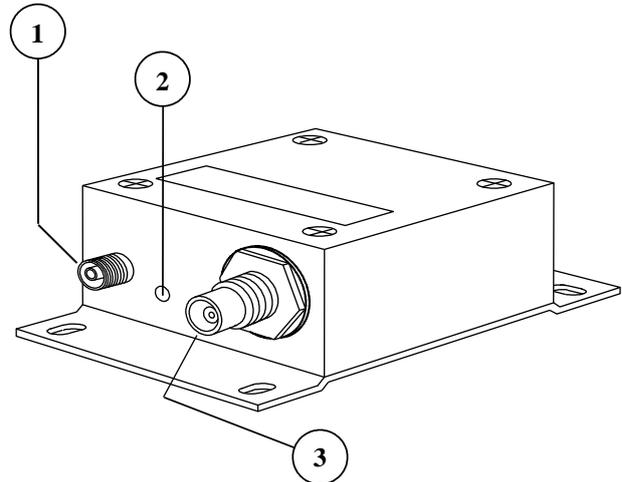

Figure 1.
Figure 1 shows the signal connection facilities and the indicator on the signal I/O side of a VBS stand-alone transmitter. The green LED (2) signals POWER ON. The optical output has an ST connector (1), while a 75 Ω BNC connector (3) is used for input.